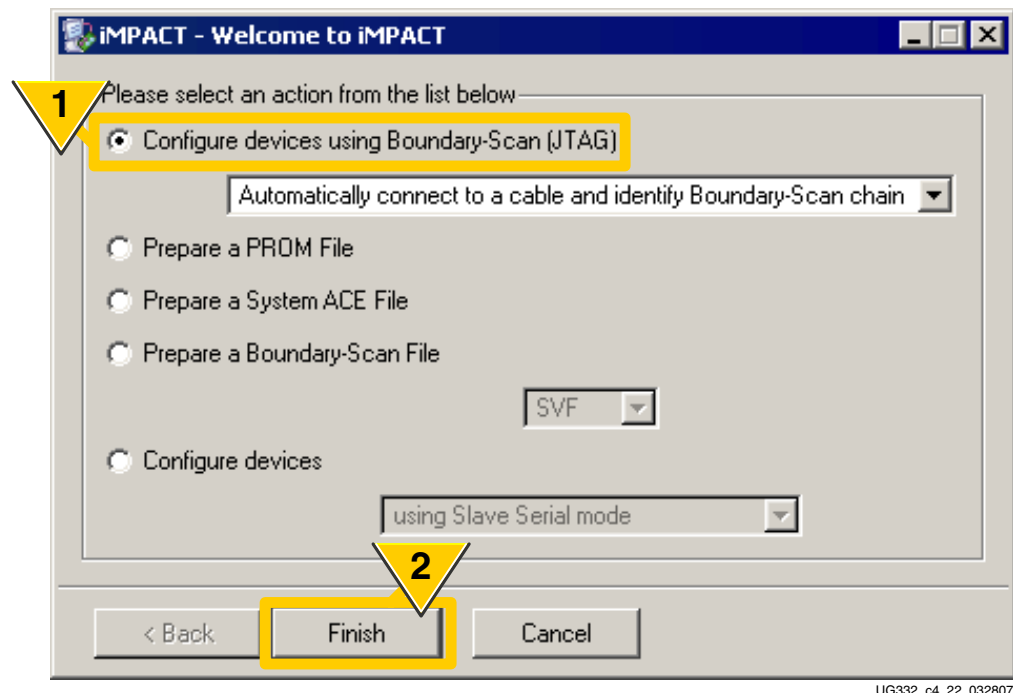

Figure 4-21: Indirect Programming Method Uses JTAG
1. Invoke iMPACT and select **Configure devices using Boundary Scan (JTAG)**, as shown in Figure 4-21.